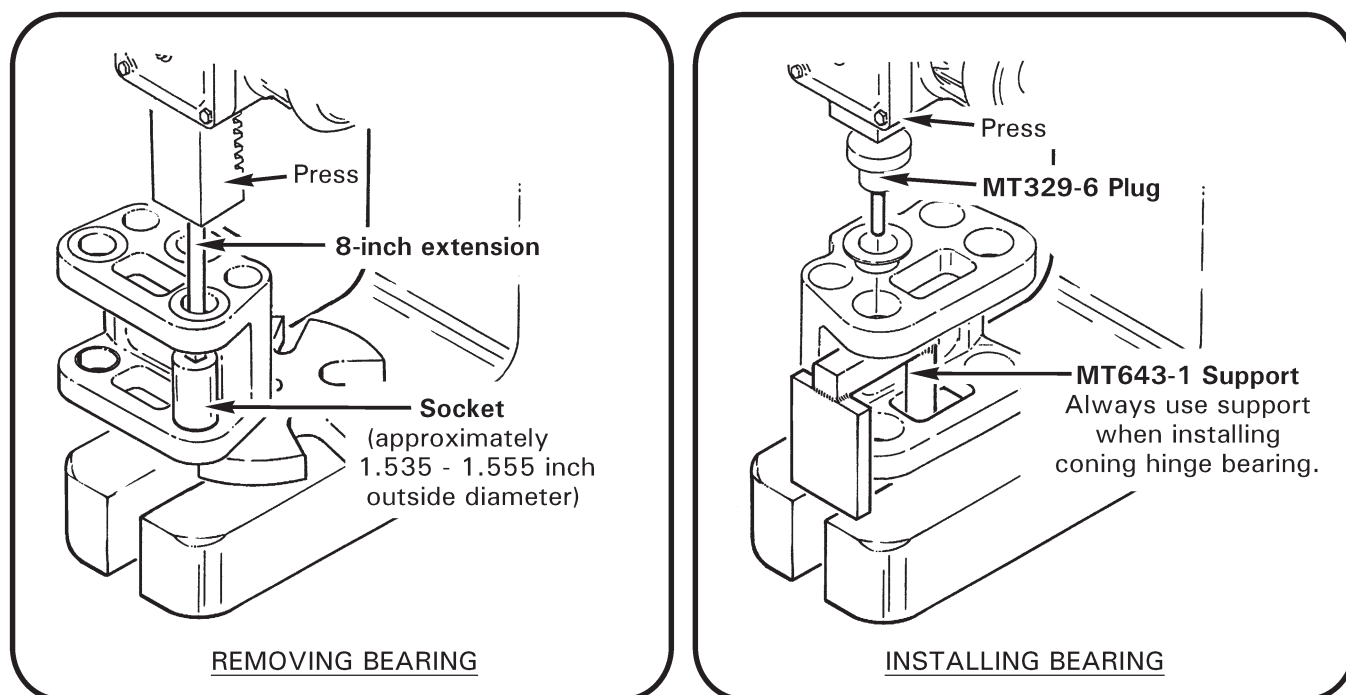

FIGURE 28-5 MAIN ROTOR HUB BEARING REPLACEMENT
2. Refer to Figure 28-5. Verify tooling surfaces are smooth to avoid damaging hub and bearings. Press bearing(s) from hub using a socket (approximately 1.535–1.555 inch outside diameter) and an 8-inch extension; alternately, press bearing(s) from hub using MT329-6 (Rev H or subsequent) with MT329-10 tube.